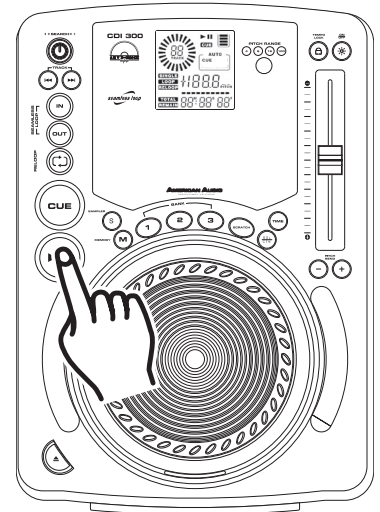
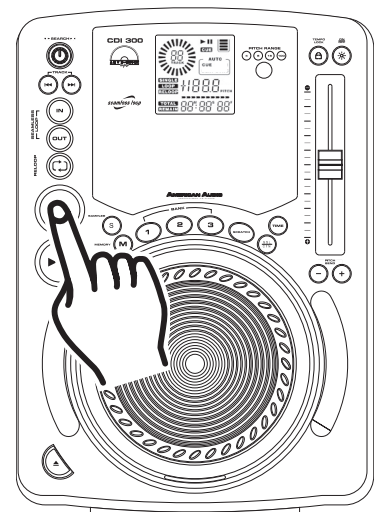
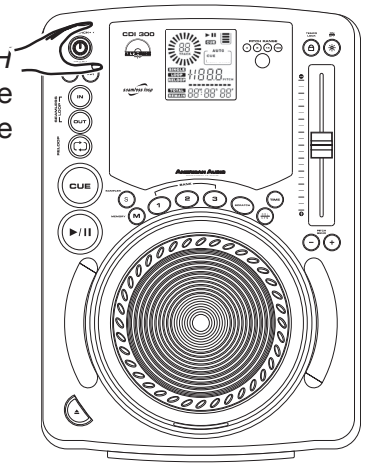

Figure 10
Figure 11
Figure 13
3. STARTING PLAYBACK - *Figure 10*
5. STOPPING PLAYBACK - *Figures 10 & 11*
- 1) Press the *PLAY/PAUSE BUTTON (14)* during playback. This will pause playback at the exact same point the *PLAY/PAUSE BUTTON (14)* was pressed.
- 2) Press the *CUE BUTTON (16)* during playback. This will pause playback and return the track to the last set cue point.
6. PAUSING - *Figure 10*
This feature allows you to scroll through a track frame by frame, allowing you to find and set a starting cue, sample, or loop point. To use the scroll function you must first be in Pause Mode (see section 6) or Cue Mode (see section 9). Once you are in Pause or Cue mode, turn the *JOG WHEEL (10)* to scroll through the track (Figure 13). Turning the wheel in a clockwise direction will advance the frame search and turning the wheel in a counter-clockwise direction rewinds the frame search. When you use the *JOG WHEEL (10)* the monitor (headphone level) function allows you to here what you are scrolling through. Once you reach your desired starting point you can set a cue (starting) point by pressing the *PLAY/PAUSE BUTTON (14)* as in Figure 10. Pressing the *CUE BUTTON (16)* as in Figure 11 will now return you to the point you just set.